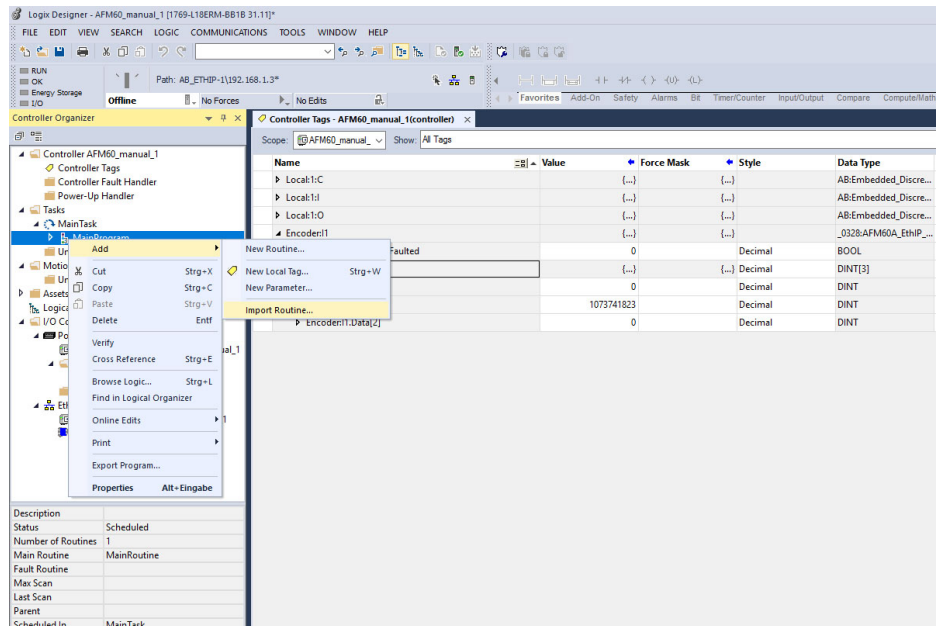

Figure 39: Selection of the Import Routine command...
- ▶ Do not click on **OK** until all configuration steps for import have been completed. If you click **OK** by mistake, you have to restart the import (see figure 39, page 57).